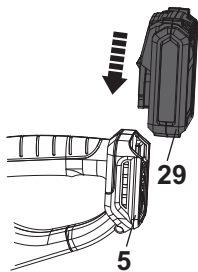

Fig. 16
1. Align the battery pack (29) with the sliding slots of the battery docking port (5) and slide the battery pack in to attach it. Ensure it clicks in place (Fig. 16).